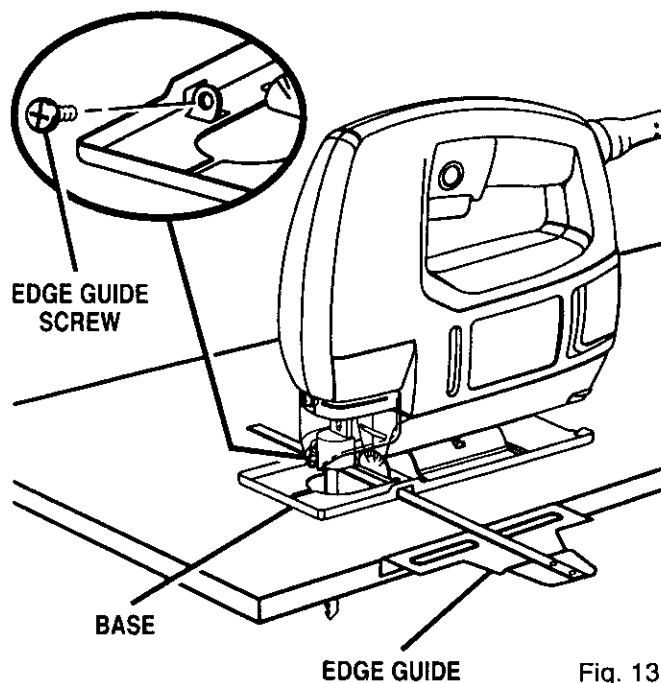

Fig. 13
See Figure 13.
- Insert arm through the two slots in the base of your saw as shown in figure 13.